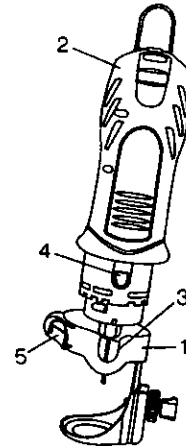

Fig. 4
2. Install freehand sole plate as shown in Fig 4